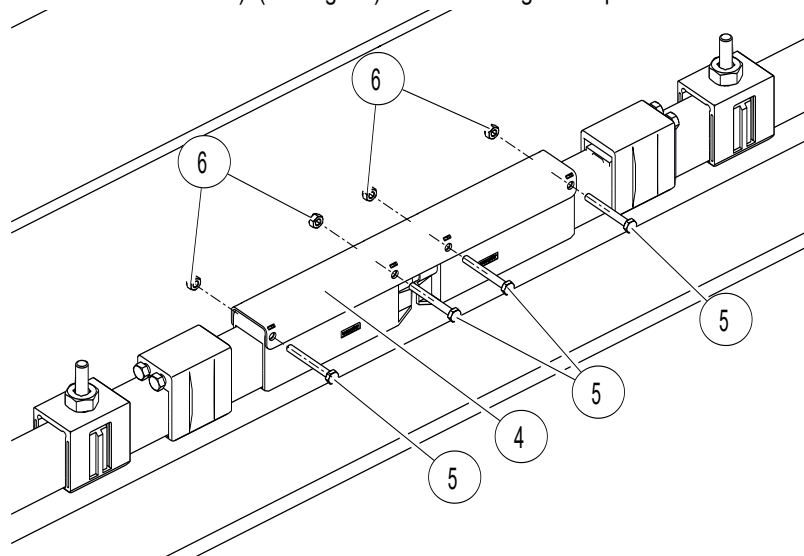

Fig. 93: Mount the plate for the air gap
- Mount the plate for the air gap (Pos. 4) with fastening elements, consisting of hexagon screw DIN931-M6x50 (Pos. 5) (8 Nm) and lock nut DIN985 (Pos. 6), on the end caps (see Fig. 93) and tighten with the specified torque (SW 10, torque wrench: **8 Nm**). (see Fig. 93). Slide the hanger clamp onto the anchor clamp.